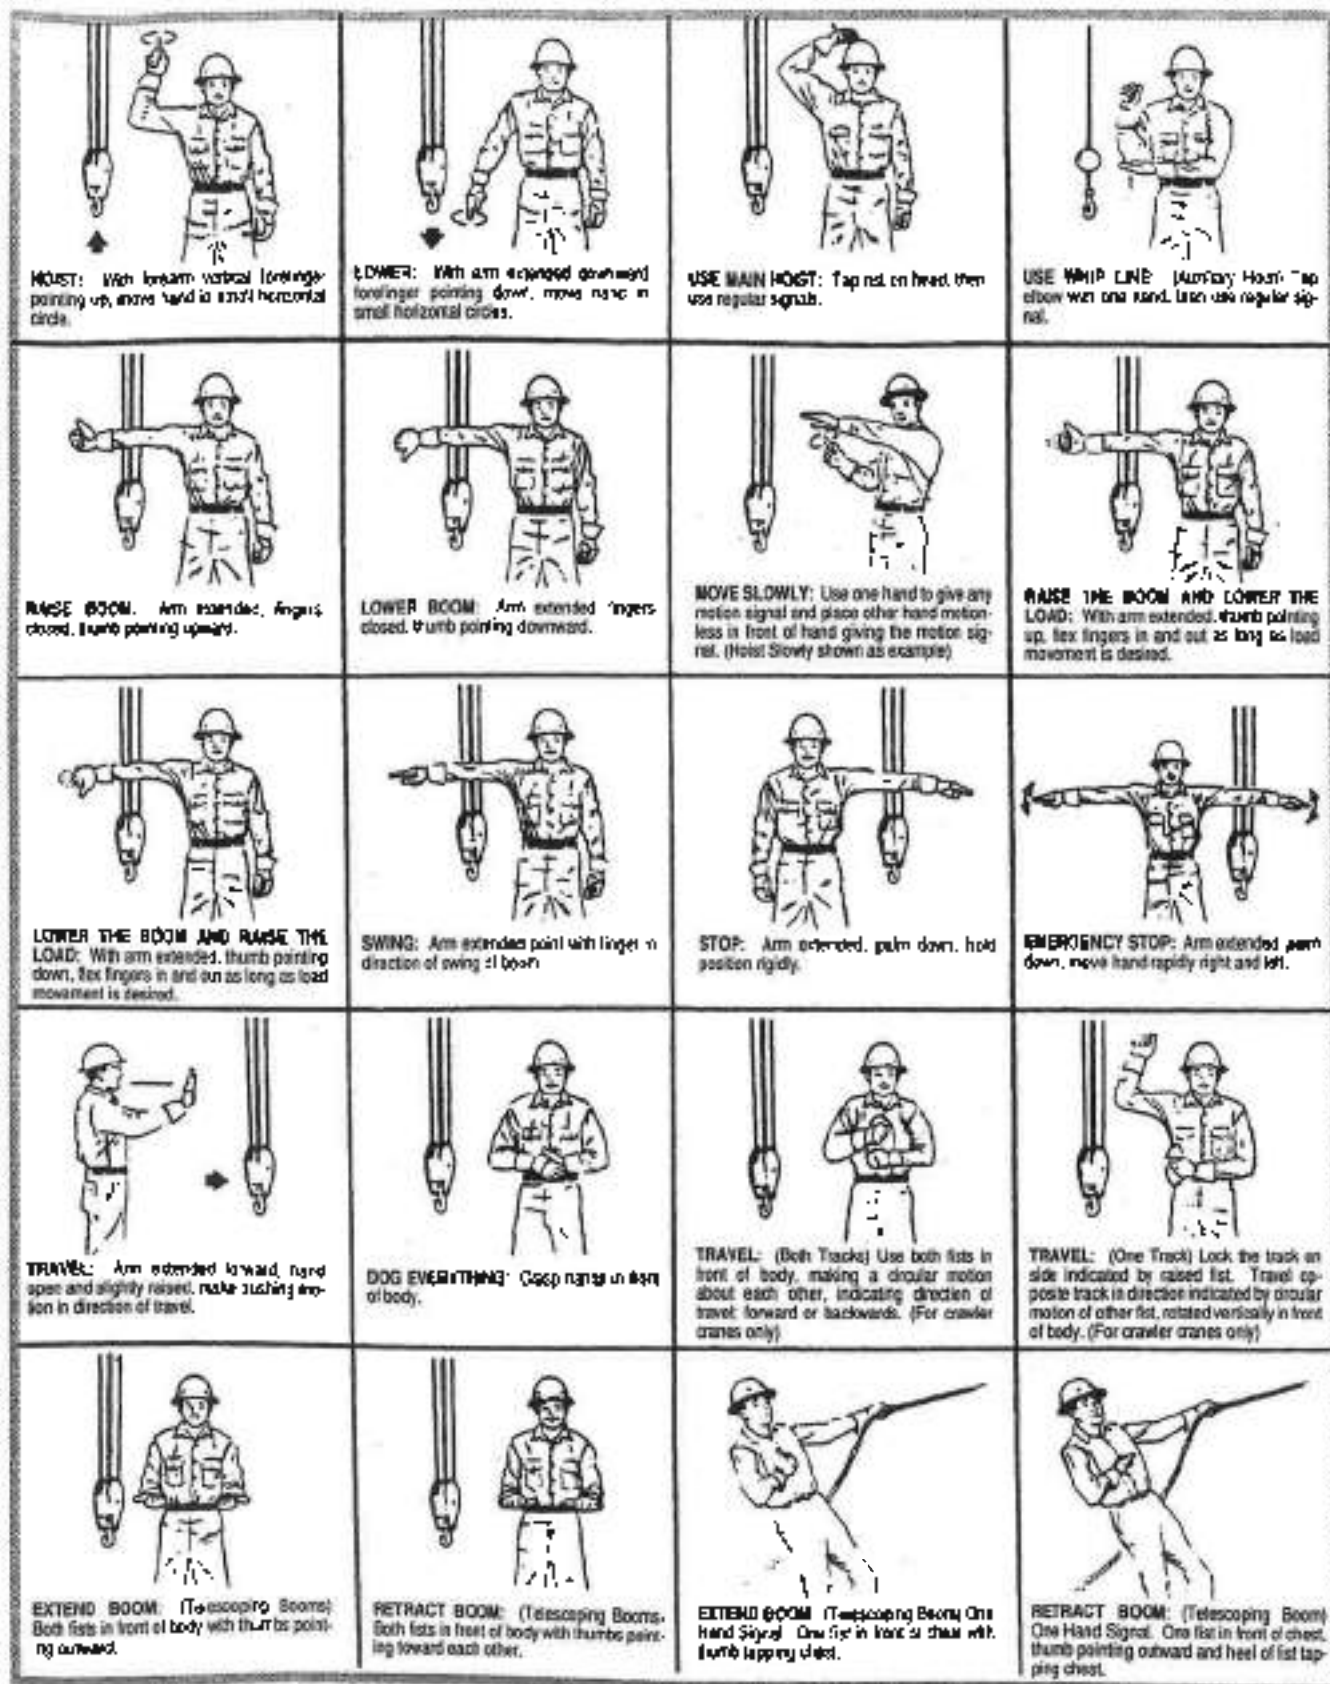

Figure 1-2. Hand Signals - Standard Crane Operation.
- KNOW ALL STANDARD HAND SIGNALS. (SEE FIGURES 1-2 AND 1-3.)